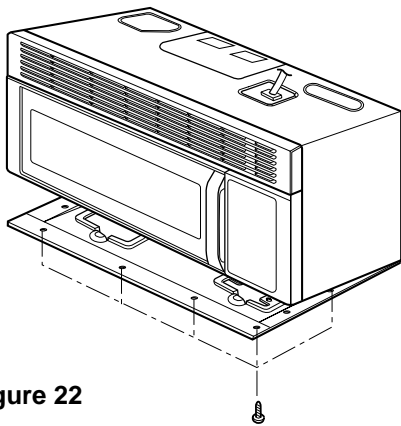
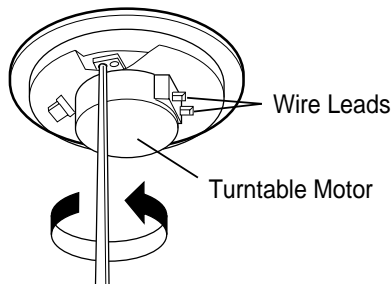

Figure 22
Figure 23
- (3) Remove the base plate by removing 6 screws securing it to the oven cavity. (Figure 22)
- (4) Disconnect the leadwire from the turntable motor terminals.
- (5) Remove the 2 screws securing the turntable motor to the oven cavity ASS'Y. (Figure 23)